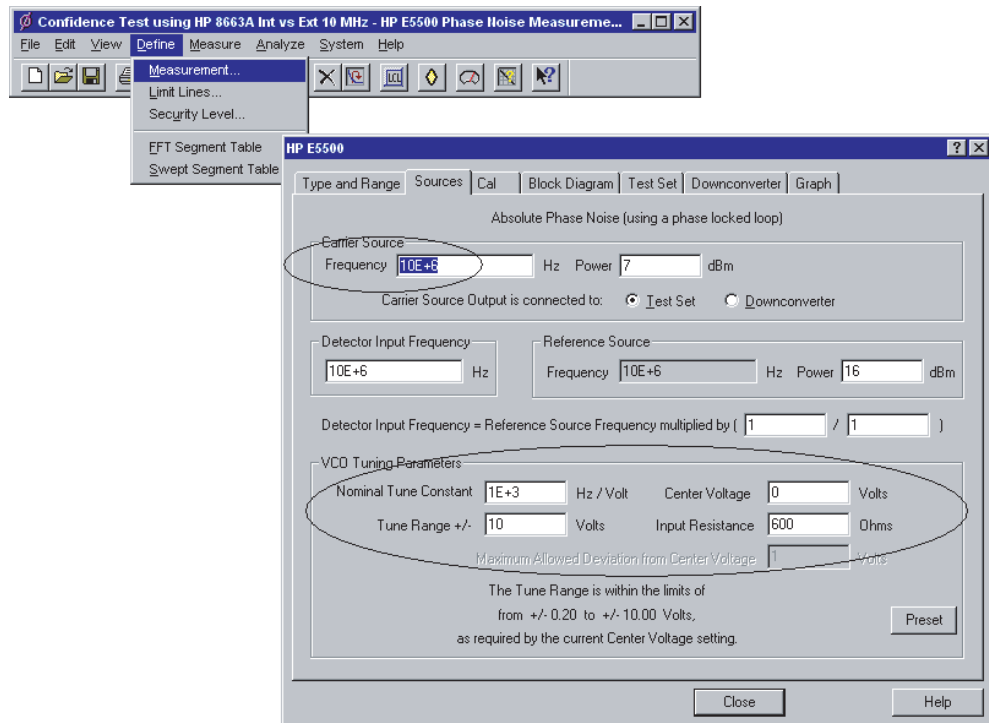

Figure 86 Enter source information
- 5 Using Figure 86 on page 131 as a guide, navigate to the **Sources** tab.